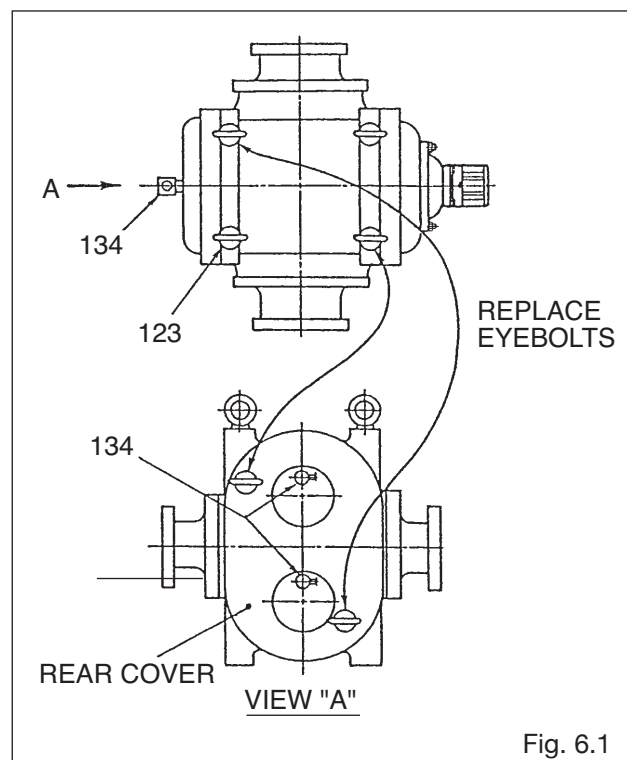

Fig. 6.1
- (1) To safeguard the two air vent valves (134) on the rear cover against damage, two eyebolts (123) are provided on the rear cover before shipment from factory. At installation or removal, use these eyebolts by installing them on top as shown in Fig. 6.1.